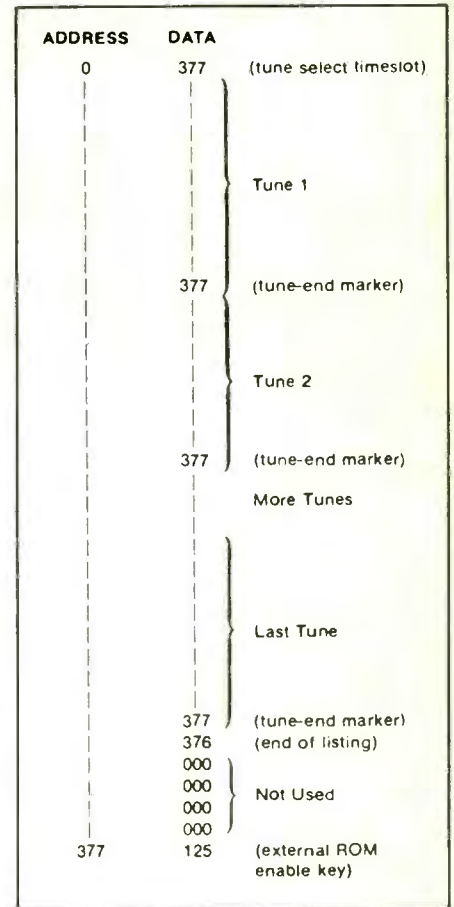

Fig. 2. EPROM allocation map per memory page, data column in octal.
When programming the EPROM, a few rules must be observed. In each page of memory, EPROM address 000 (00) must contain data 377 (FF). EPROM address 377 (FF) in each page must contain data 125 (55), which is a key to open the external EPROM. Following the tune data, the last two bytes should be 377 (FF) and 376 (FE), indicating the tune end marker and end of listing marker. Fig. 2 is a diagram of EPROM memory allocation per page.